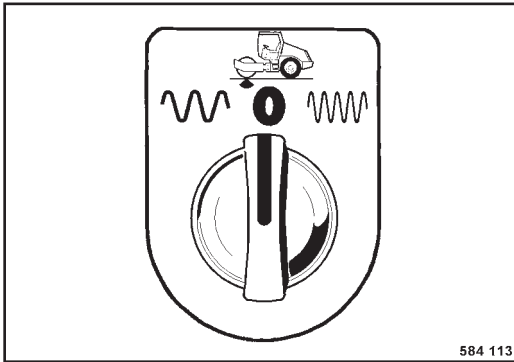

Fig. 49
- Pre-select amplitude/frequency with the rotary switch (Fig. 49).